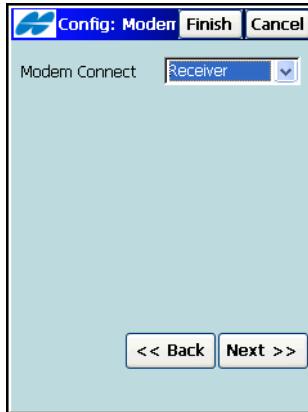

Figure 3-25. Config: Modem Connect
- **Next** – opens the *Config: Modem Connect* screen (Figure 3-25 on page 3-27).
The **Config: Modem Connect** screen (Figure 3-25) displays for the Rover receiver configuration in Network RTK or Network DGPS surveys.